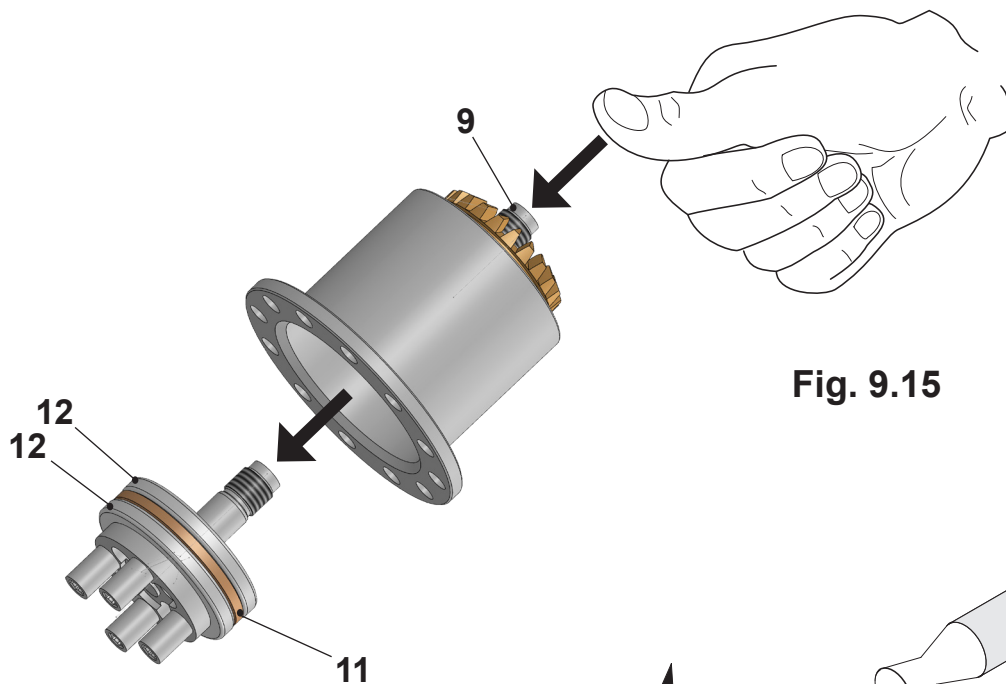

Fig. 9.15
9.4.6) Push the shaft pos.9 fig.9.15, the bearing made up of part pos.12 and parts pos.11 out of part 23.